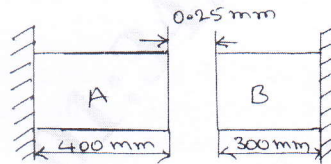

Fig.Q2(a)
- At room temperature the gap between bar A and bar B shown in Fig.Q2(a) is 0.25 mm. What are the stresses induced in the bars if the temperature rise is  $35^\circ\text{C}$ . Given that